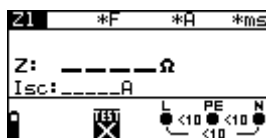

Figure 5.40: Line impedance measurement menu
Step 3 Follow the connection diagram shown in figure 5.40 to perform phase-neutral or phase-phase line impedance measurement. Use the **Help** function if necessary.